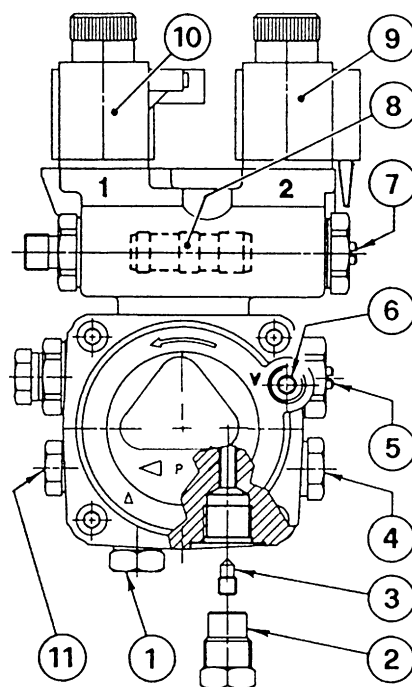

Fig. 8
- The pump is designed to allow working with two pipes. In order to obtain one pipe working it is necessary to unscrew the return plug (2), remove the by-pass screw (3) and then screw again the plug (2), (see Fig. 8).
On the system in Fig. 7 it is sufficient to loosen the suction gauge connection (6, Fig. 8) and wait until oil flows out.